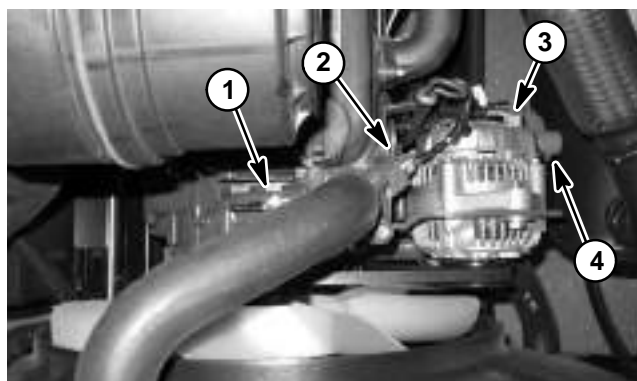

Figure 12
- C. Alternator connector and stud (Fig. 12).
- D. High temperature warning switch and high temperature shutdown switch (Fig. 12).